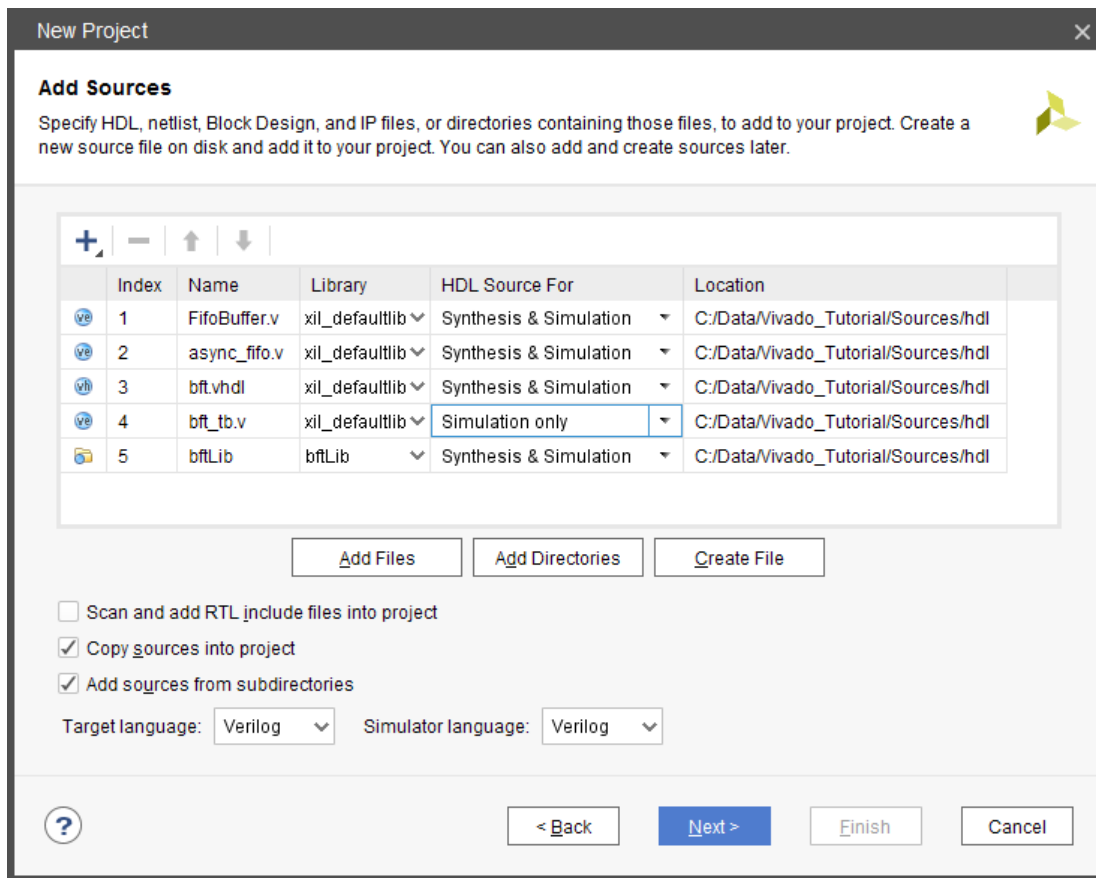

Figure 11: Add RTL Sources
- Click in the **HDL Sources For** column for the `bft_tb.v` file and change Synthesis and Simulation to **Simulation only**, as shown in Figure 11.